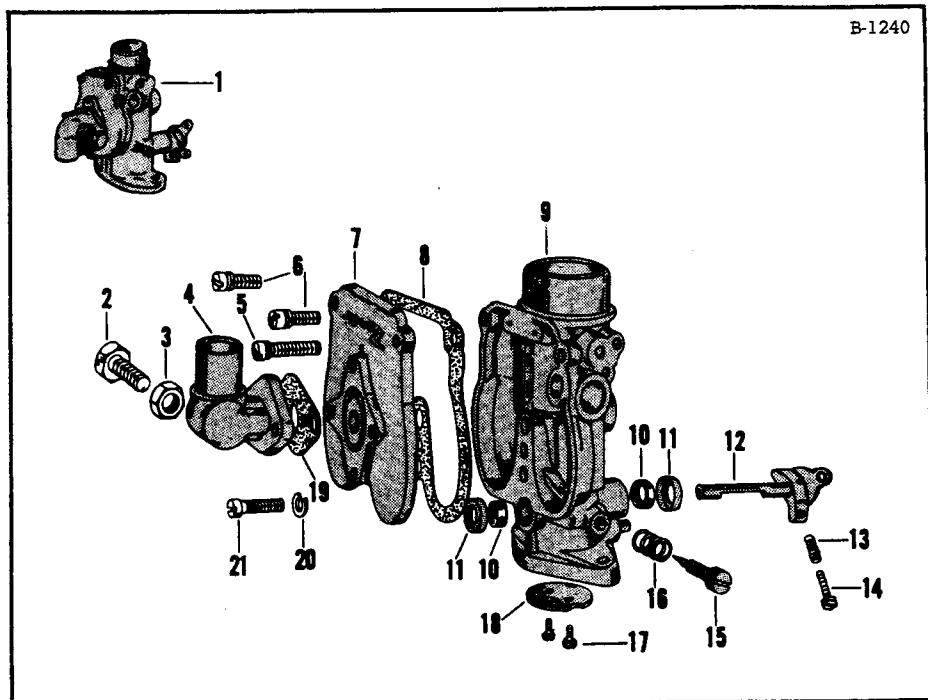

Fig. 271 LP Carburetor Breakdown
1. With the carburetor inverted, loosen the check nut (Figure 271, Item 3) and remove the main adjustment screw (Item 2) and check nut from the fuel metering block. Remove the fuel block screws, fuel block (Item 4) and gasket (Item 19).